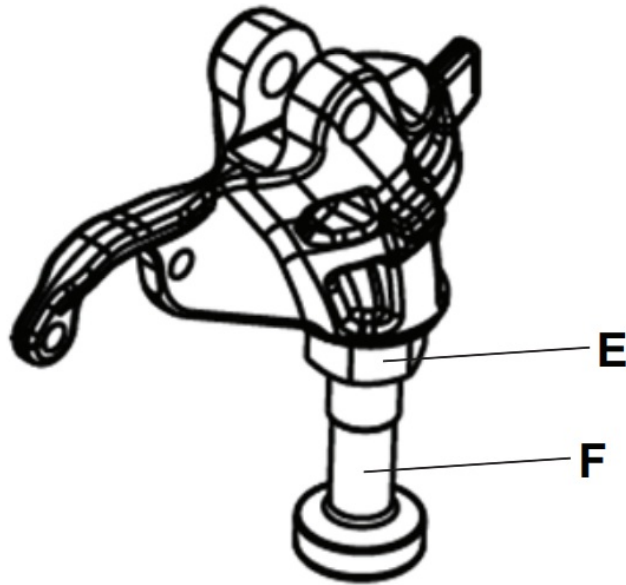

Figure 9 – Head end forging assembly
5. Using a 15/16" hex wrench, loosen the locknut (E) that secures the pin (F) to the head end forging assembly (Figure 9).